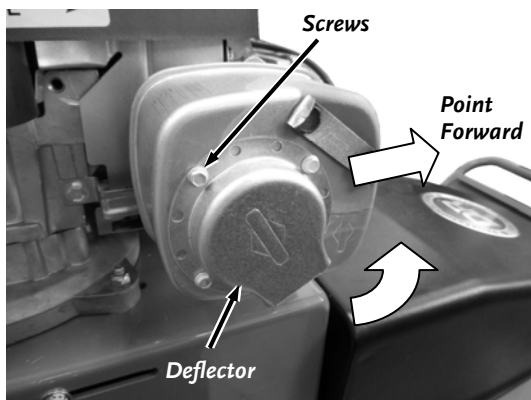

Figure 27
1. Remove the three Screws that secure the Exhaust Deflector using a 1/4" Wrench (**Figure 27**).